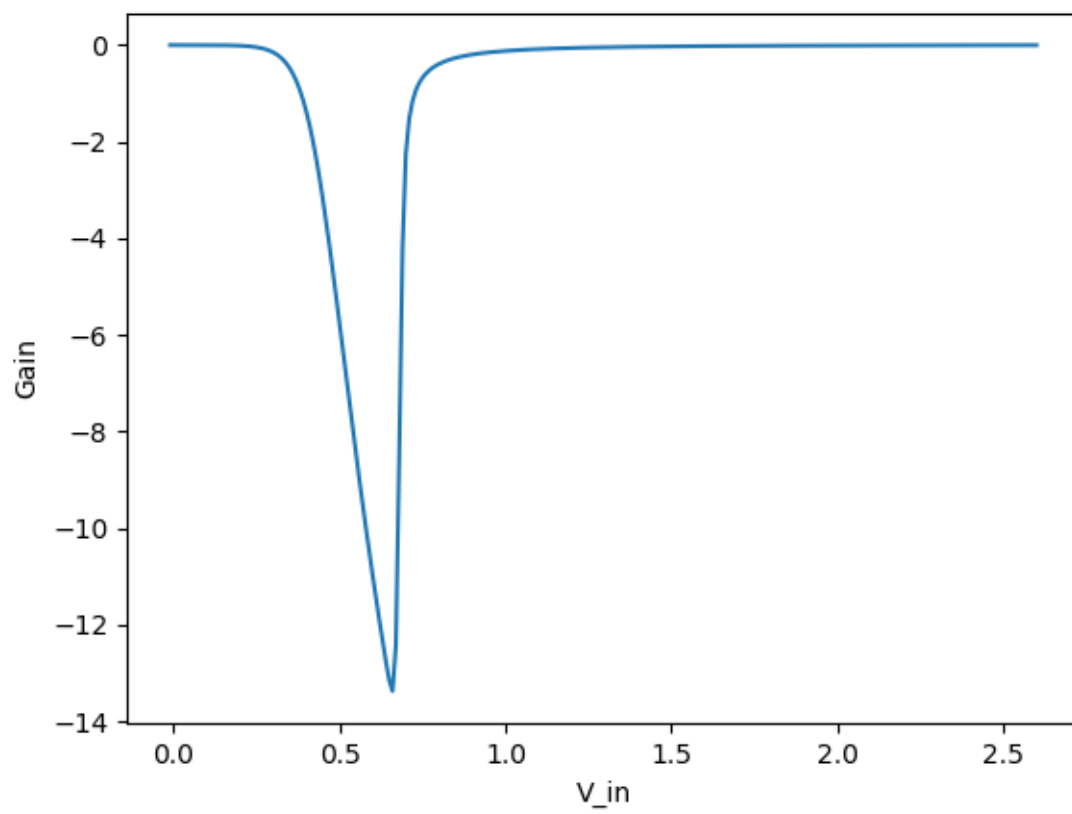

Figure 10: Gain of Inverter
- Please refer Figure 10 for the plot of Gain.